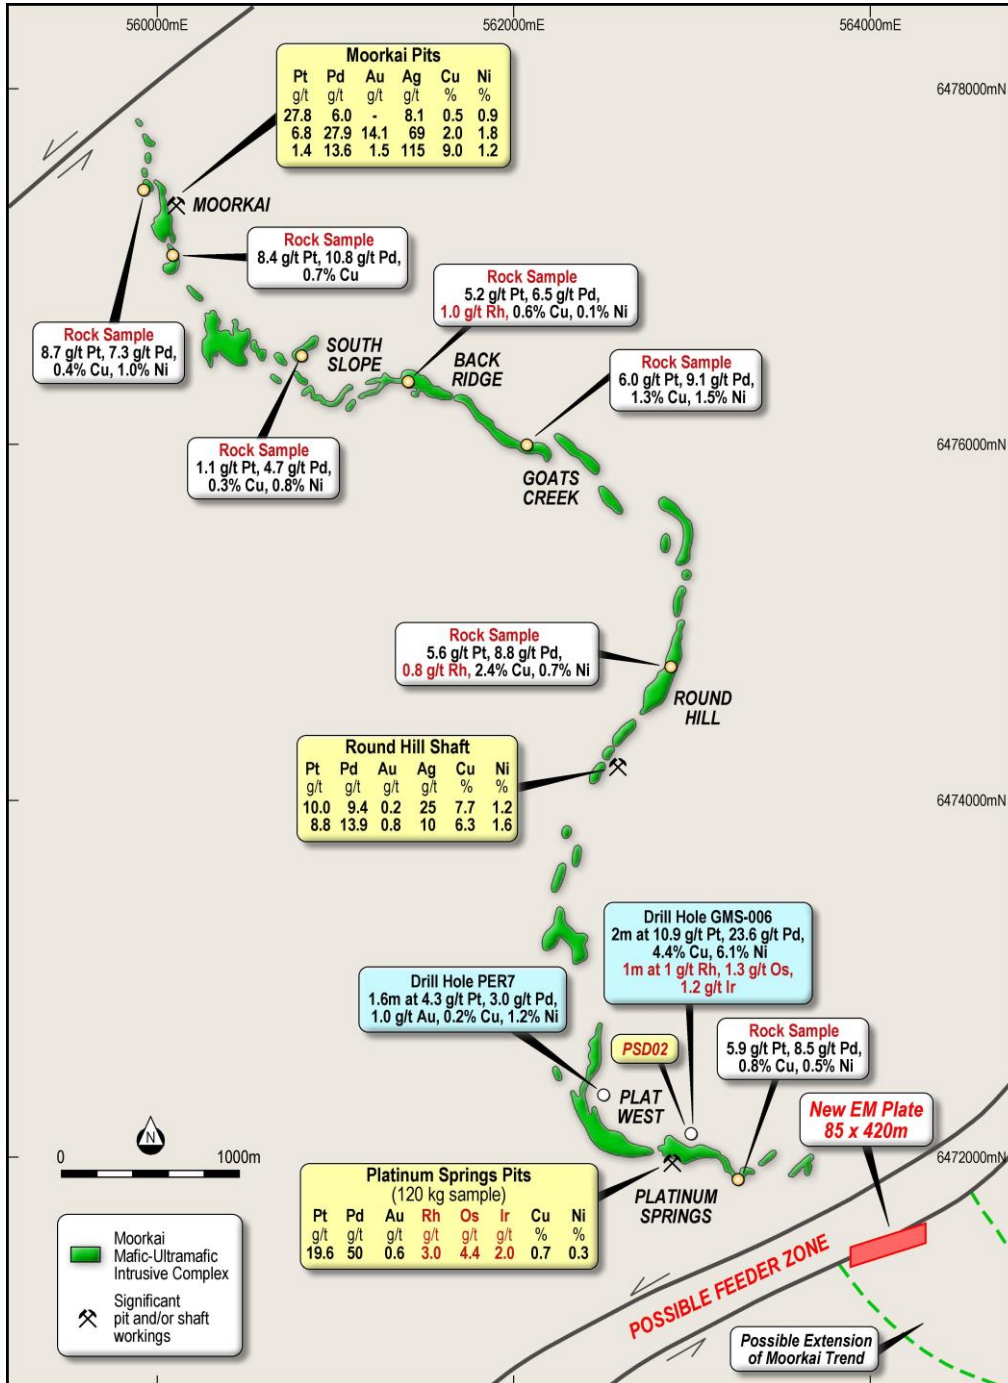
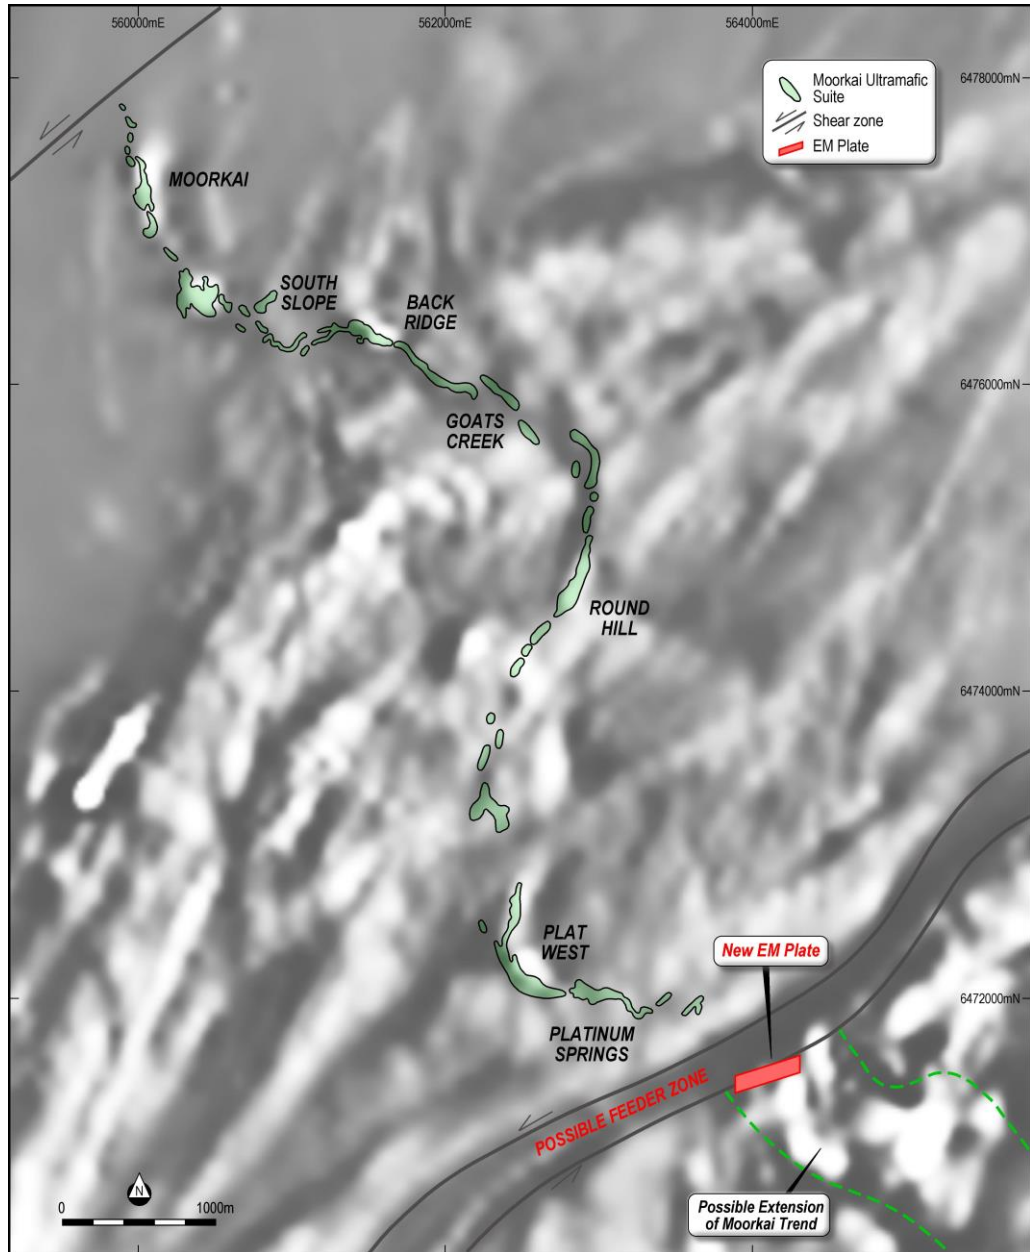

Figure 1. Location of newly identified EM plate in relation to the 9 km long Moorkai Trend with previous rock chip and drill results (pre-Impact work).
Figure 3. 1VD mag image showing location of new EM plate in relation to the Moorkai intrusive trend with interpreted feeder zone.
Impact Minerals Limited is pleased to announce that a significant electromagnetic (EM) conductor has been identified in the extensive ground EM survey that is in progress at the company's Broken Hill project in NSW and which is being funded by joint venture partner IGO Limited (ASX:IGO) (Figure 1 and ASX Releases 9th November 2021 and 27th January 2022).
The EM plate is located approximately 1,000 metres southeast along strike from the main Platinum Springs Prospect where previous drilling by Impact returned a narrow intercept of high-grade massive sulphide mineralisation in PSD002 (Figure 1 and ASX Release 23rd February 2016) that returned:
The Platinum Springs Prospect lies at the southern end of the Moorkai Trend, a nine kilometre long ultramafic to mafic dyke and chonolith complex that is very poorly explored (Figures 1 and 3).
The EM conductor is located within a major structure to the southeast of the main outcrops of the Moorkai intrusive complex (Figures 1 and 3). It is possible that the Moorkai Trend formed in a large (now folded) perpendicular structure between two major shear zone structures which bound the intrusive complex (Figure 3).
These shear zones may be feeder zones to the Moorkai Trend and also raise the possibility that the Trend continues to the south to southeast where similar strongly magnetic rocks occur under thin cover (Figure 3).